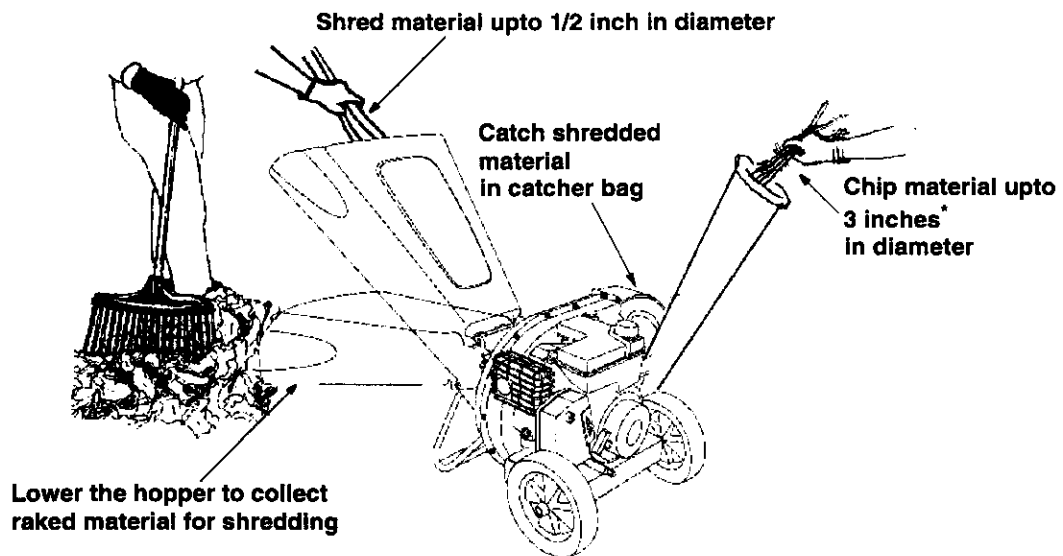

Figure 13
- Leaves and small branches up to 1/2" diameter (maximum) can be fed into the hopper assembly when it is in the raised or lowered position. See figure 13.
- Bulky material, such as stalks or heavy branches, up to 3" in diameter can be fed into the chipper chute. See figure 13.